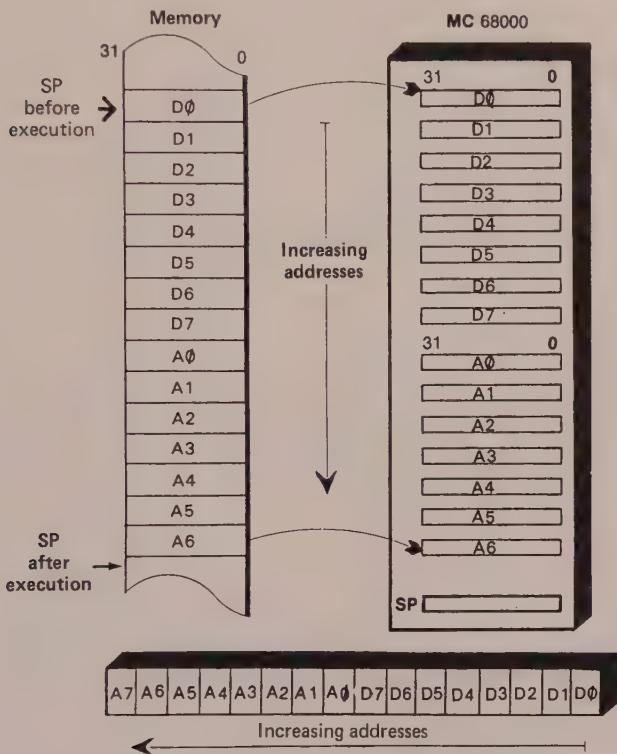

Figure 6.18 `MOVEM.L(SP)+,D0-D7/A0-A6`
3. Our third example is the transfer of a memory block to a list of registers in postincrement mode (see figure 6.18).